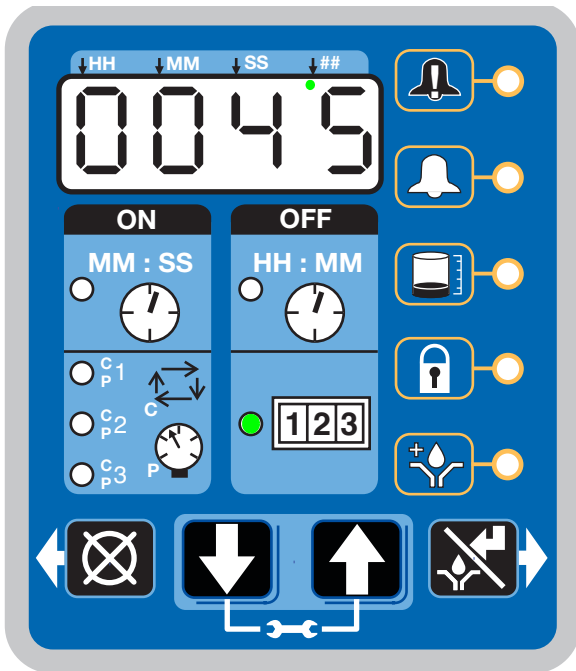

FIG. 34
- The LED next to 1-2-3 illuminates (FIG. 34).
The example shown in FIG. 34 shows the remaining number of machine counts is 0045.
- If Machine Count has been set the LED next to 1-2-3 illuminates (FIG. 34, page 54).